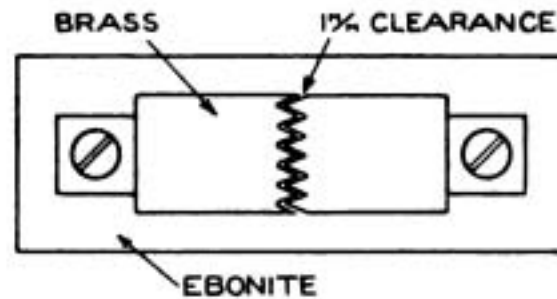

Fig. 7.
In conclusion, it might be noted that an aerial will act as a remarkably good lightning conductor. It is customary therefore to avoid damage to instruments by lightning by inserting a small spark gap between aerial and earth at receiving stations. This provides an easier path for the lightning than through the tuning inductance. The damage to delicate receiving apparatus is to a certain extent obviated. In the case of violent storms, the aerial could be connected directly to earth by means of a suitable switch. Fig. 7 shows a type of protecting spark gap.
(2) 3,500 ms. for the aerial circuit. Secondary with 0.0005 condenser across it approximately 6,000 ms.
(3) Nauen, Eiffel Tower, Poldhu, and others.
(4) Make a telephone transformer—described in issue for March, 1920—for your existing 240 ohm. telephones, and obtain a 0.0005 condenser in place of the test tubes.
**H.D. (Dartford).**—(1) It would be easier to give you a suitable circuit if you told us something about your proposed intervalve transformers, e.g., whether they are L.F. or H.F. Similarly your item 5 (one condenser, two plates  $1\frac{1}{2}'' \times 2\frac{1}{2}''$ , mica dielectric) is not very helpful without the thickness of the dielectric. If your transformers are L.F., use a circuit as in Fig. 7, page 190, in